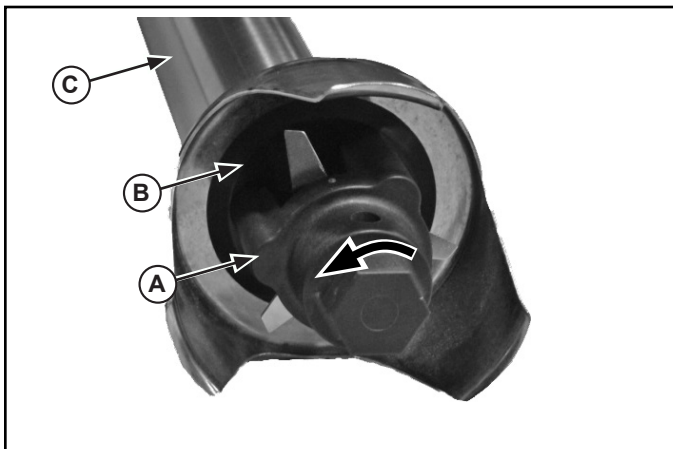

Figure 7. Blade Shaft Assembly Removal.
2. Place the blade removal (A) tool onto posts of the shaft assembly (B). See Figure 7.
3. Hold attachment (C) arm and use a wrench to loosen to rotate blade removal tool (B) counter clockwise.